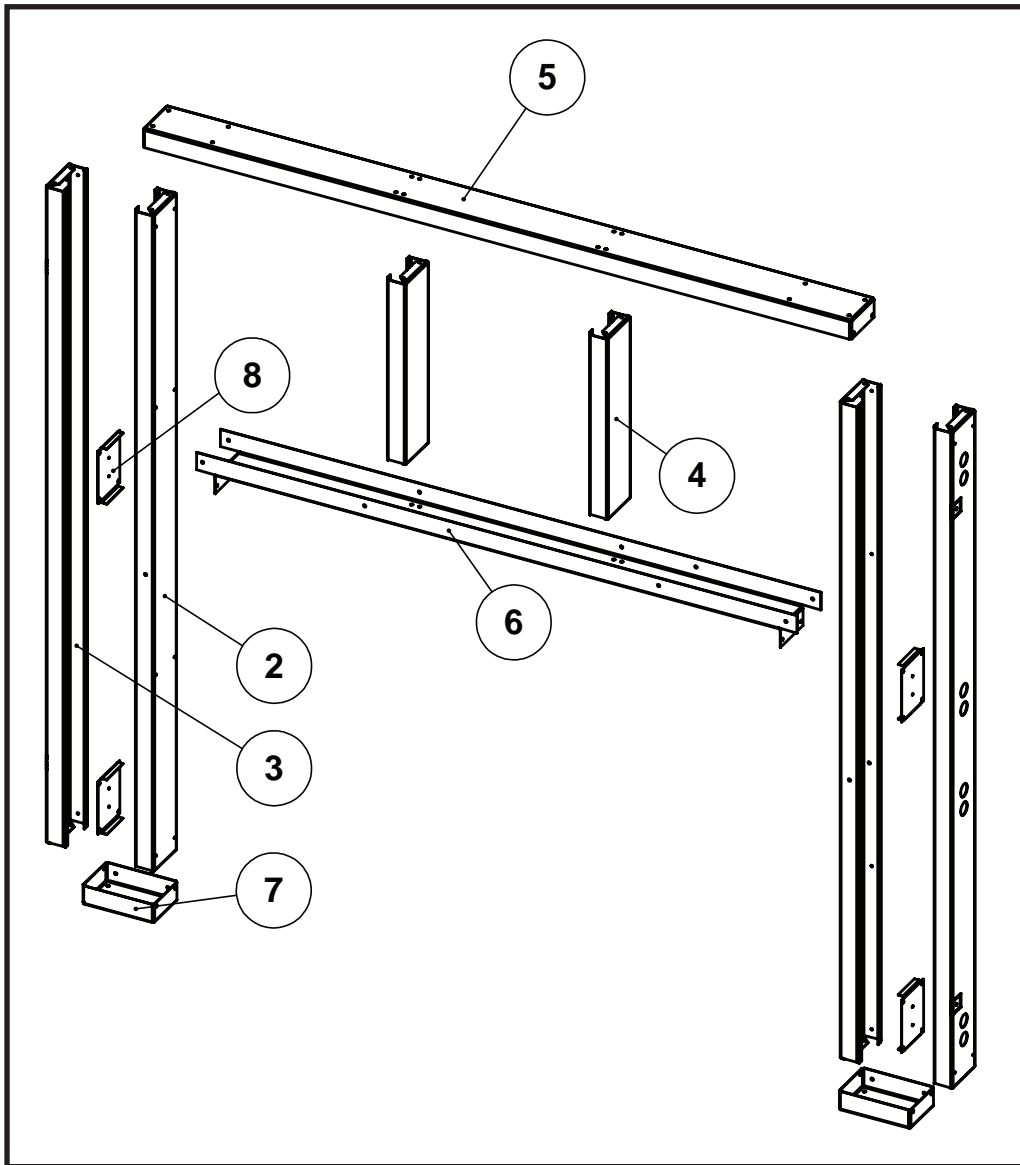

Figure 15: TC42D Steel frame parts.
Lay out the horizontal header stud (5) on a large flat surface. (Position all pieces on their narrow edges as shown in the illustration- (Figure 15).